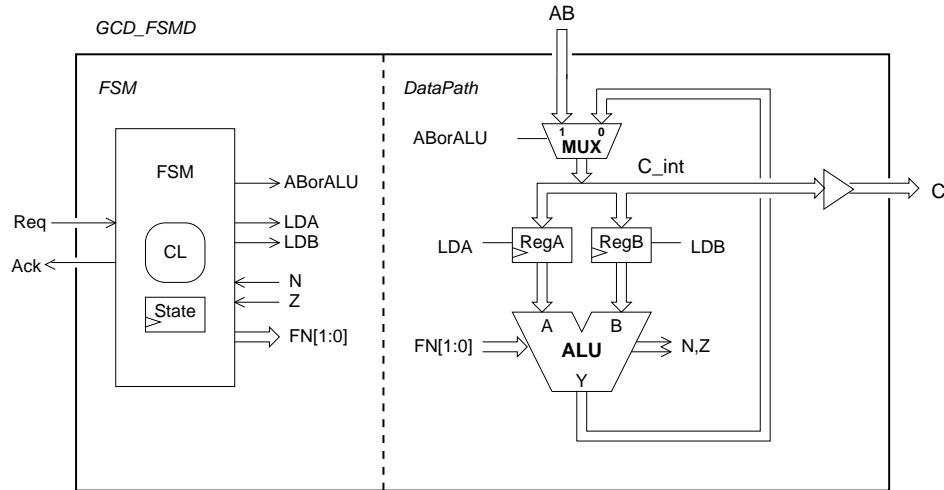

Figure 2: A possible FSMD-style implementation of the GCD-module, using two registers and one ALU.
Looking at the algorithm, it is obvious that a possible implementation could involve a finite state machine controller and a datapath containing two registers (A and B), an ALU and one or more busses/multiplexors to implement the required signal flow. One example of such a possible FSM-style (Finite State Machine with Data-path) implementation is shown in Figure 2 and Table 1.
- Assume that the data-path is implemented as shown in in figure 2, that A, B and C are 8-bit unsigned integers, and that the technology-primitives available on the FPGA are D-flip-flops and 6-input LUT's. Estimate how many flip-flops and LUT's are needed to implement the data-path? Briefly explain your estimate. Hint: this is not a difficult question – you do not need to perform a detailed implementation, a LUT can implement any 6-input Boolean function.
Let us now continue the design of the GCD-module, and let us aim for a simple implementation using a finite state machine controller and a datapath with the smallest possible amount of hardware resources: one ALU, two registers (for A and B) and some selection circuitry to provide data-pathways between these resources. Such a datapath was introduced previously and shown in Figure 2.
We will now explore VHDL's capabilities to express structure, i.e., schematics. Your task will be to develop a structural implementation of GCD using a finite state machine and a structural implementation of the data path as shown in figure 2. You will have to write some new VHDL files from scratch, in which you define the new entities and architecture bodies. The structural architecture of the entity gcd must consist of two entities FSM and datapath, and the structural architecture body of datapath must use instances of the following components:
- alu : 8-bit ALU with the functions described in Figure 2.
- a) Develop a structural VHDL model of the system shown in figure 2. This involves:
(1) A new structural architecture body for gcd_module consisting of two entities/components FSM and datapath. (2) A definition of the datapath entity. (3) A structural architecture body for the datapath.